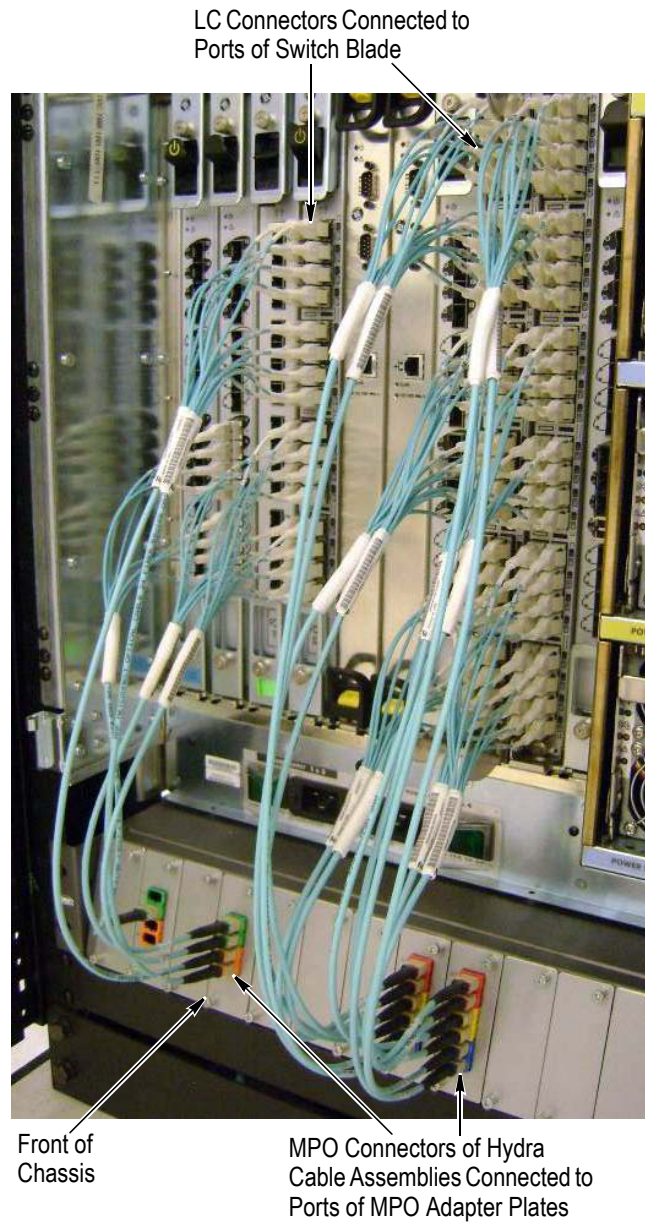

Figure 8
2. Connect the LC connectors of the hydra cable assemblies to the applicable ports of the switch blade (each LC connector is labeled to match the port markings). See Figure 8.
4. Connect the MPO connectors of the hydra cable assemblies to the applicable port of the MPO adapter plate. See Figure 8. The port designations and color codes are marked on the front of the MPO adapter plate, and the MPO adapters are keyed to match the MPO connectors of the hydra cable assemblies.